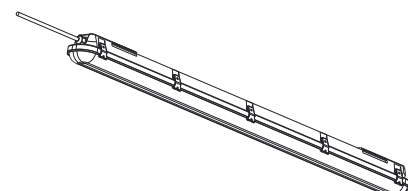

Figure 8
9. Restore power at the source and installation is complete. (Figure 8)